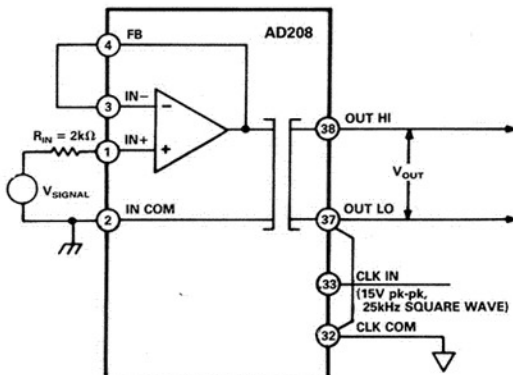

Figure 29. Basic Unity Gain Configuration
**Unity Gain Input Configuration.** The basic unity gain configuration for input signals of up to  $\pm 5 \text{ V}$  is shown in Figure 29.
**Note on the 2 kΩ Resistor:** The 2 kΩ resistor placed in series with the input signal source and the IN+ terminal, designated as  $R_{IN}$  in Figures 29 and 30, is suggested so as to limit the current seen at the input terminals to 2.5 mA when the AD208 is OFF. The 2 kΩ resistor will also reduce the overload recovery time to 2 ms.
**Signal Inversion.** The circuits illustrated in Figures 29 and 30 are “noninverting.” If signal inversion is desired simply interchange the output leads of the circuits shown in Figures 29 or 30 to get inversion. This approach allows for the retention of the high input impedance characteristics of the “noninverting” circuit.